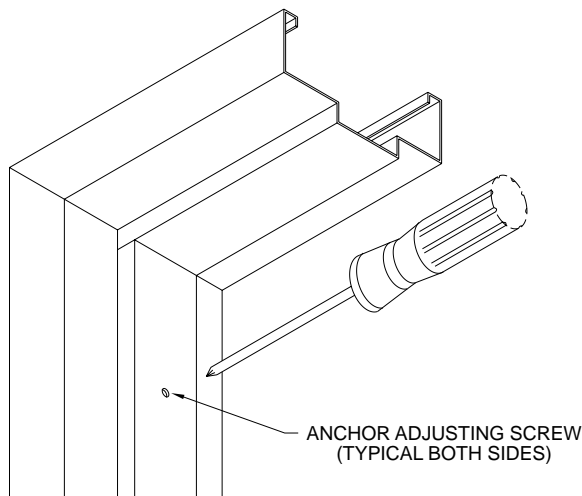

Figure 24 – Anchor adjusting screw
3. Turn adjusting screws hand tight until compression anchor contacts jamb studs. Recheck level and square. Adjust via anchor screws as needed (see figure 24).